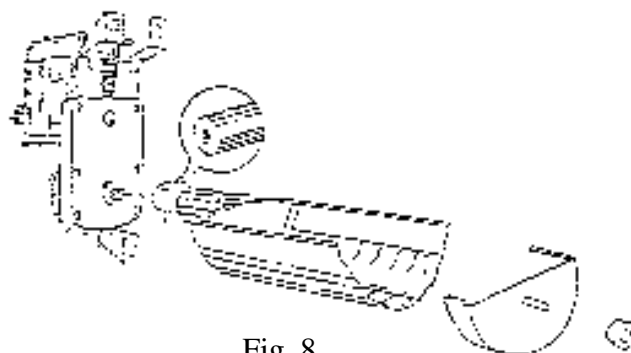

Fig. 8
1. Make sure the hole through the rear shaft is in a horizontal plane. (If a pin were inserted in the hole, the pin would be horizontal.) See Fig. 8.
2. The Vend Rotor must be in the loading position when the Motor shaft is inserted in the end of the Rotor. See Fig. 8.